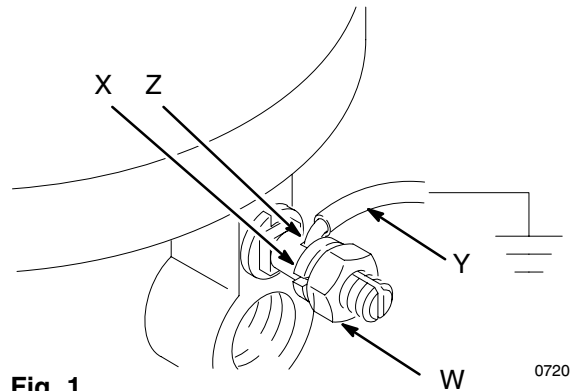

Fig. 1
1. *Pump:* use a ground wire and clamp as shown in Fig. 1. Loosen the grounding lug locknut (W) and washer (X). Insert one end of a 12 ga (1.5 mm²) minimum ground wire (Y) into the slot in lug (Z) and tighten the locknut securely. Connect the other end of the wire to a true earth ground. Order part number 222011 Grounding Clamp and Wire.